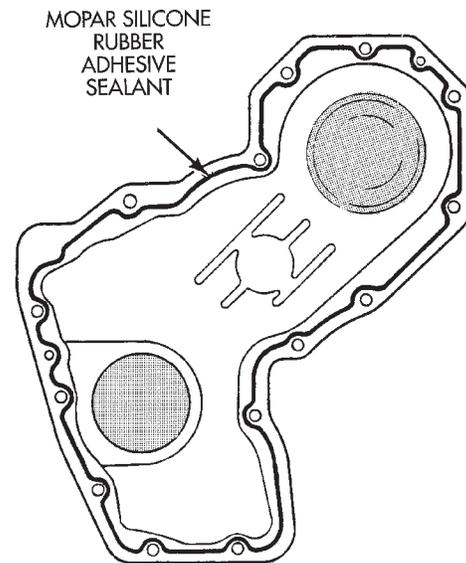

Fig. 38 Front Cover Sealer Location
- (1) Apply a continuous 3 mm bead of Silicone Sealer to timing cover, install within 10 minutes, tighten Torx bolts to 11 N-m (96 in. lbs) (Fig. 38).
- (2) Install pump shaft support bracket assembly, tighten nuts to 24.5 N-m (216 in. lbs.).
- (3) Install Power steering/air conditioning pulley, tighten to 170 N-m (125 ft. lbs.).